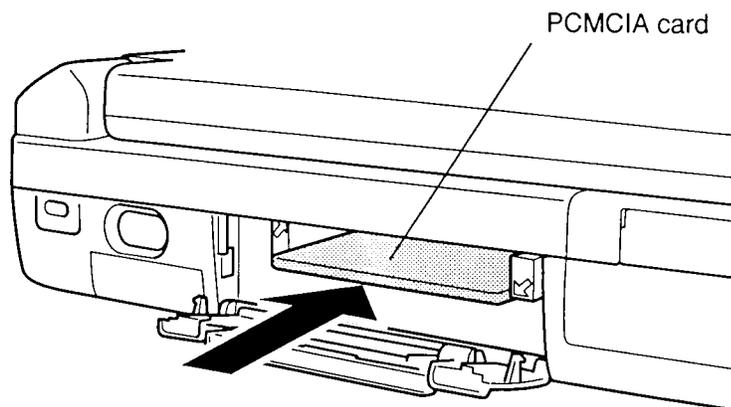

Figure 4-9 Installing the optional PCMCIA card
To install an optional PCMCIA card in the T2150 series, follow the steps below and refer to figure 4-9.
1. To install a **PCMCIA card**, carefully insert the card, making sure the card is right side up and the contact surface is inserted first (figure 4-9).